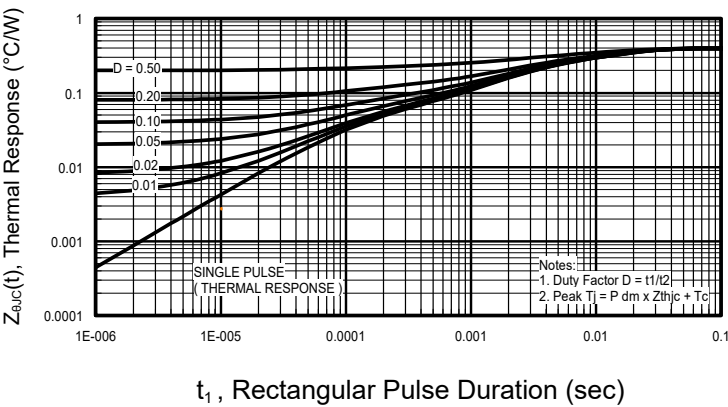

Figure 13: Maximum Effective Transient Thermal Impedance, Junction-to-Case
Notes on Repetitive Avalanche Curves , Figures 13, 14
7. ΔT = Allowable rise in junction temperature, not to exceed T_{jmax} (assumed as 25°C in Figure 13, 14).